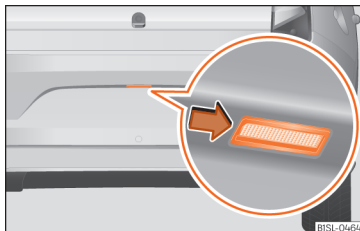

Fig. 91 In the rear bumper: remove the plate light.
- With one hand, press on the number plate light from left to right and remove it from the bumper » Fig. 91.